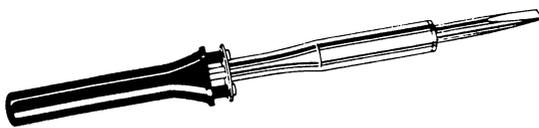

Fig. 1-24 Soldering iron.
The soldering iron (Fig. 1-24) comes in handy when it is necessary to make a solder connection that will take vibration and withstand corrosion. Soldering irons of about 15 watts (W) to over 600 W are available in the market. The best all-purpose soldering iron for use in the shop is about 100 W. This will do the job in most cases where larger wires are involved. The small 15-W irons are very useful in electronics work on printed circuit boards.